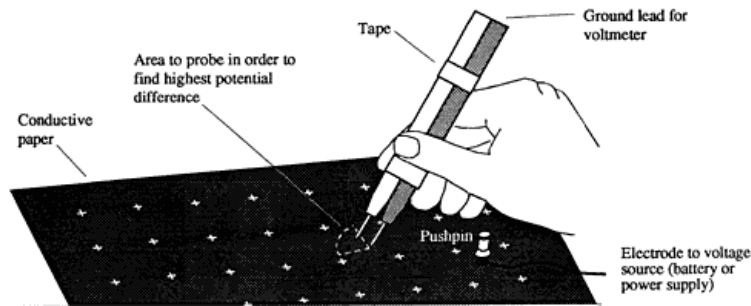

Figure 3: The Probes for plotting Field Gradient
1. To plot field gradients (field lines), neither lead of the voltmeter is connected to an electrode. Instead, the two leads of the voltmeter will be placed on the conductive paper side-by-side at a set distance of separation (one centimeter is a useful separation to use). It is best to tape the two leads of the voltmeter together for this procedure (see Figure 3).